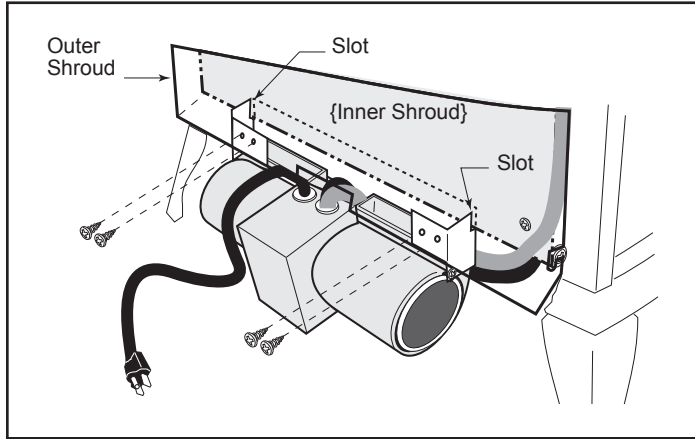

Figure 11 - Position the fan to engage the inner shroud with the fan bracket slots and secure with sheet metal screws.
6. Position the fan assembly so the ducts slide between the inner and outer shroud. The inner shroud should engage with the two slots in the ends of the bracket so that bracket and shroud are interlocked. (Figure 11) Secure the bracket with the four sheet metal screws provided in the finish bag.